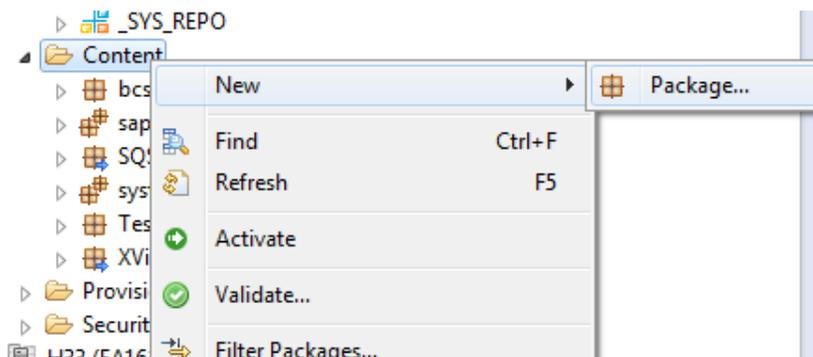
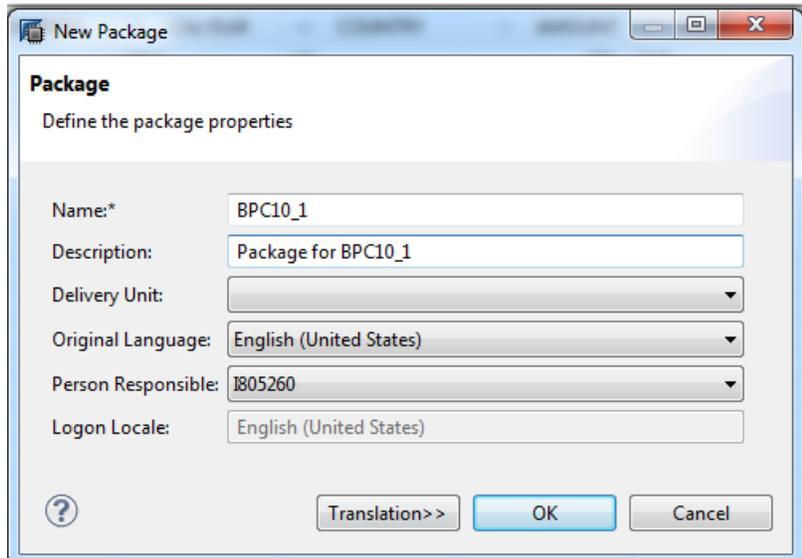

Figure 13 – Create a package
Figure 14 – Define a package
1.7 **Create a package** – The next step is to create a calculation view for the virtual table created above. In order to do that, you can either select an existing package or create a new package. To create a new package, navigate to Content node and right mouse click to select New and Package as shown in Figure 13. Then you will be prompted to enter the name and description of the package as shown in Figure 14. Click OK to continue.